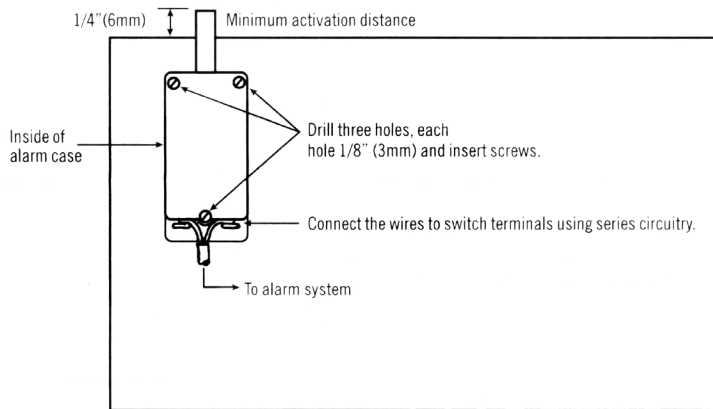

Figure 1
3. Connect the wires to the switch terminals, using series circuitry, see illustration on Figure 1.